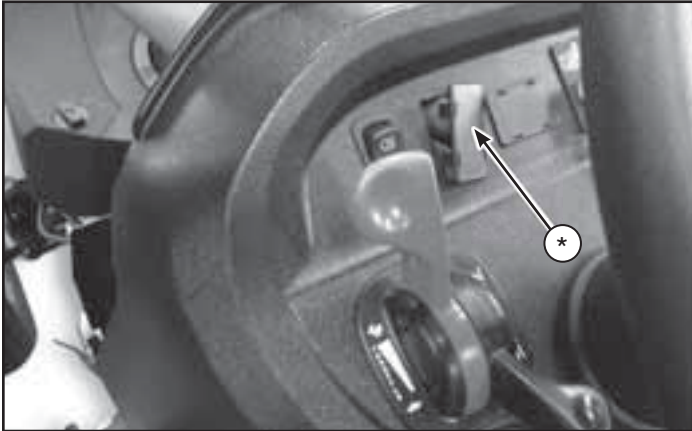

Figure 18
1. Remove plug from tractor dashboard (*, Figure 18).